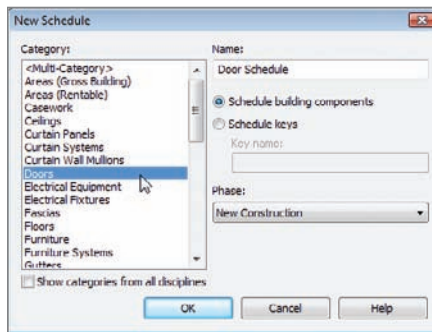

FIGURE 11.2 Select Doors and click OK.
3. The next dialog box, as shown in Figure 11.2, allows you to choose which item you would like to schedule. Select Doors and click OK.